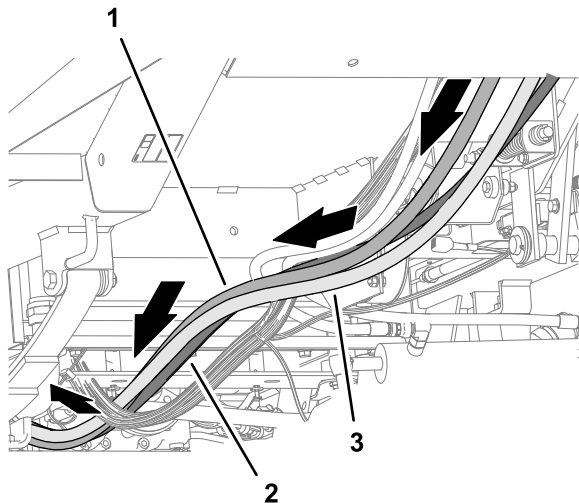

Figure 124
7. Route the 2 hydraulic pump hoses and the tank-return hose rearward, along the right frame tube of the machine (Figure 124).